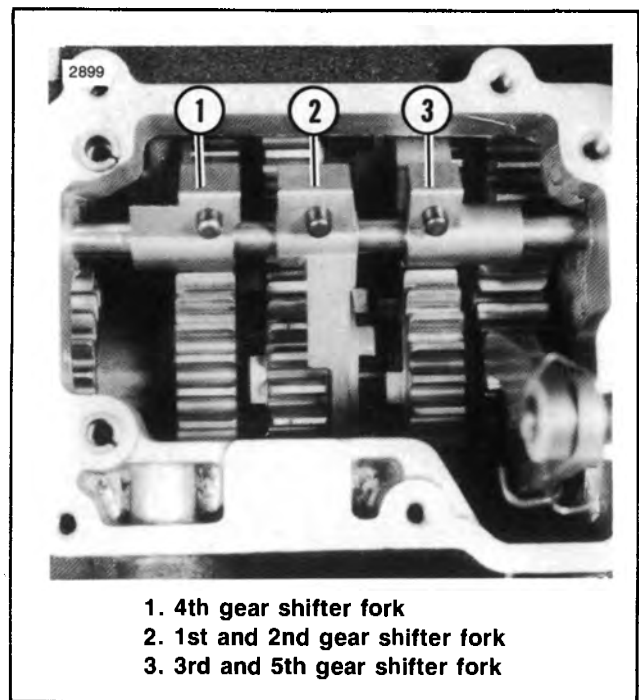

Figure 7-11. Transmission Forks Position
2. See Figure 7-11. Insert shifter fork (1) into the slot of the mainshaft 1st gear. Insert shifter fork (2) into the slot of the countershaft 3rd gear and insert shifter fork (3) into the slot of the mainshaft 2nd gear.